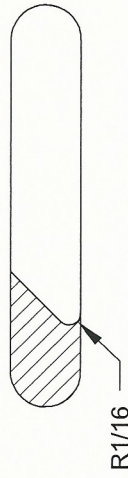

FIGURE 6: POPSICLE STICK TOOL
Step 2: Make a popsicle tool as shown in Figure 6.